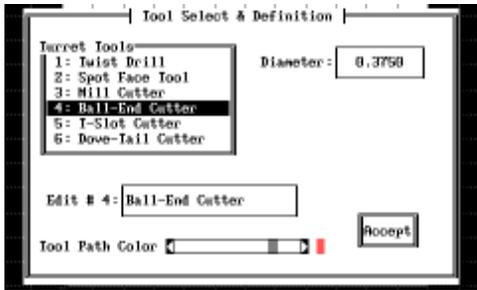

Figure 3.6
2. Choose **CAM-Select Tool** with the mouse or <ALT>-C T from the keyboard. See **Figure 3.6**.